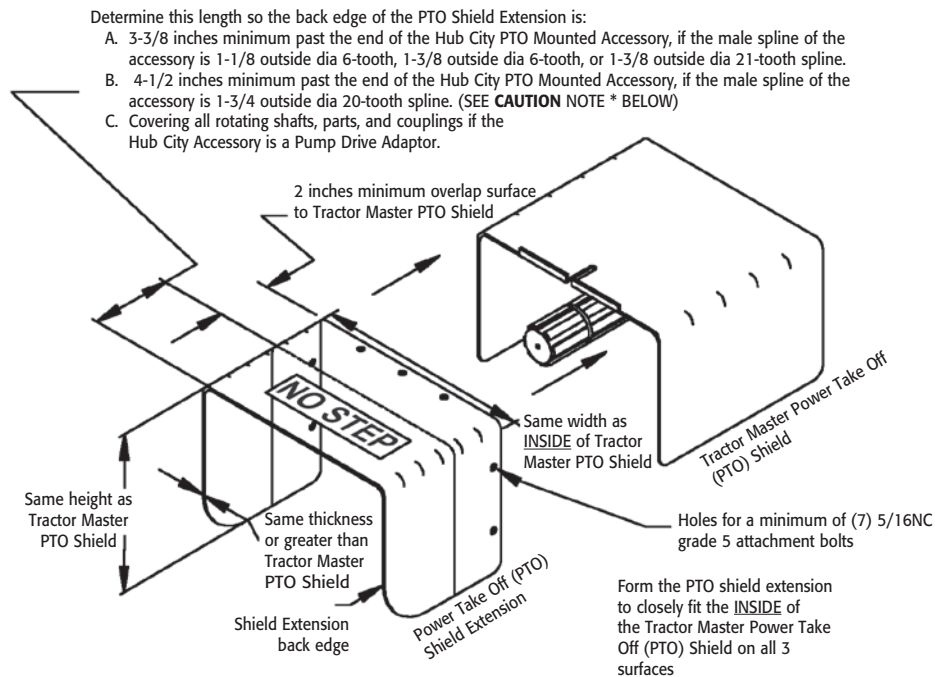

Figure No. 1
The tractor to which you will be mounting this Hub City Power Take-off (PTO) accessory, must be equipped with an ASAE approved Tractor Master Power Take-Off (PTO) Shield supplied by the tractor manufacturer or constructed to American Society of Agricultural Engineers Standards and a Power Take-Off (PTO) Shield Extension as identified below and in Figure No. 1. If the tractor will not have these two (2) shields, DO NOT mount or use this PTO accessory.
Your PTO driven implement MUST BE equipped with a shielded drive line at all times when using this Hub City power take-off accessory! If your PTO driven implement drive line is equipped with a tunnel type drive line shield that is attached to the drive line pedestal on the implement and attaches to the slot and tang on the tractor master power take-off (PTO) shield, that allows the tunnel shield to telescope as you turn corners, DO NOT use the implement with this or any other Hub City PTO accessory. The tractor master power take-off shield extension shown in Figure No. 1, covers the tractor master power-take off shield slot and tang and will not allow the attachment of the tunnel type drive line shield.
A generic guideline for the dimensional size & construction characteristics of a PTO shield extension are shown in Figure No. 1: